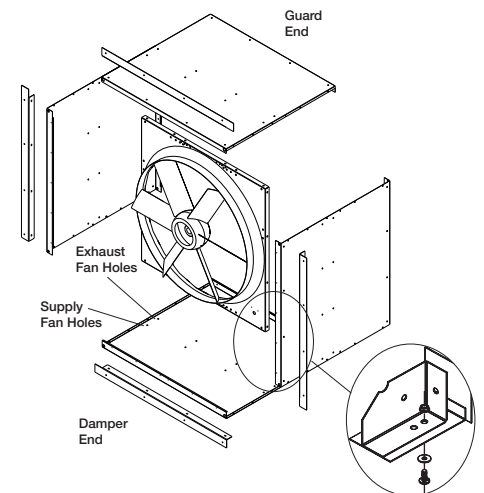

Figure 2 — Assembly
1. Determine if a supply or exhaust fan is to be used in the wall housing. Two rows of holes are provided for attaching the wall housing panels to the fan panel. See Figure 2.